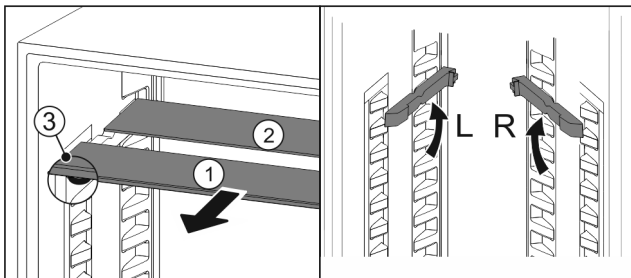

Fig. 110
- ▶ Pull the glass panels out Fig. 110 (1) from the front, one at a time.
- ▷ The glass panel Fig. 110 (1) and trim strip are at the front.
- ▷ The stops Fig. 110 (3) point down.